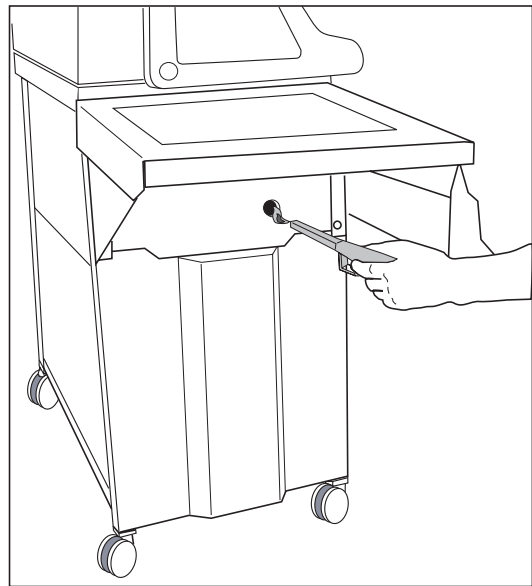

Fig. 10
4. Insert a lit match or a butane lighter into the match lighting hole located on the left hand side of the base, (see Fig. 10).